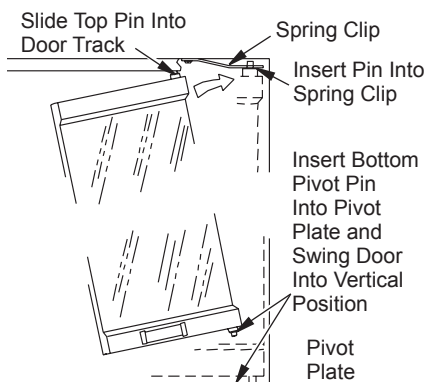

Figure 33 - Installing Optional Glass Door
2. With handle facing center of firebox opening, insert lower pivot pin on glass door panel into hole in pivot plate on bottom edge of fireplace opening (see Figure 33).
4. Tilt door assembly fully vertical until outer pivot pin snaps into mounting hole in upper spring clip (see Figure 33).